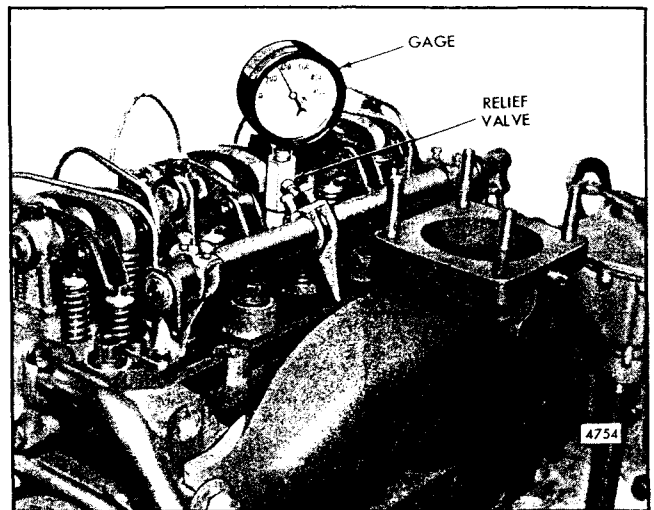

Fig. 1 - Checking Compression Pressure
3. Remove the injector and install the adaptor J 7915-02 and pressure gage and hose assembly J 6992 (Fig. 1).